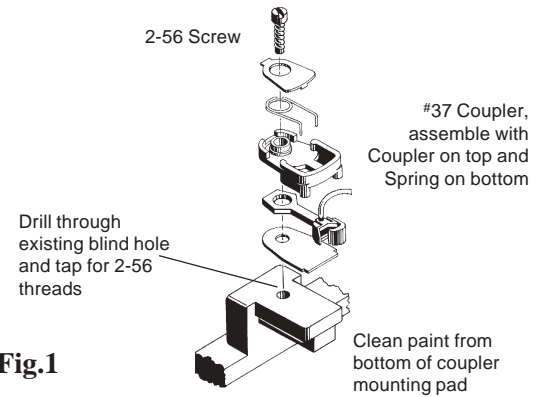

Fig.1
3. Assemble the #37 Coupler with coupler on top and Torsion Spring on bottom as shown in Fig.1. Install coupler, align and secure with a 2-56 screw.